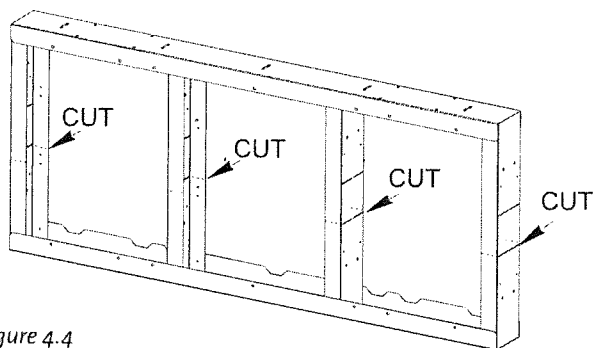

Figure 4.4
- B. Use tin snips to cut across the metal studs at the perforations indicated in fig. 4.4.